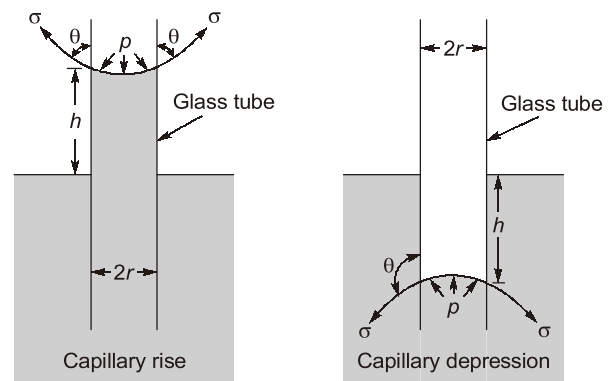

Figure 1.8 Capillarity in circular glass tubes
- Let the level of liquid rises (or fall) by h above (or below) the general liquid surface when a tube of radius r is inserted in a liquid having specific gravity 'S' as shown in Figure 1.8. By equilibrium condition, the weight of liquid column of height h (or the total internal pressure in the case of capillary depression) must be balanced by the force, at surface of the liquid, due to surface tension σ .